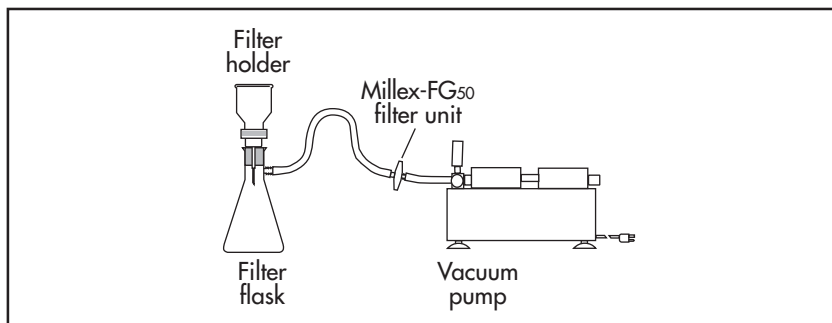

Figure 1. Proper use of Millex-FG₅₀ filter.
CAUTION: Always use a hydrophobic vent filter or a vacuum-flask water trap in conjunction with the pump. (See Figures 1 and 2.) Never pump or draw liquids through the pump, as this will damage the pump.
- Always use the Millex[®]-FG₅₀ vent filter and silicone tubing included with the pump when applying vacuum. This will prevent liquids or vapors from entering the Millivac Maxi Pump. A properly attached Millex-FG₅₀ vent filter is illustrated in Figure 1.